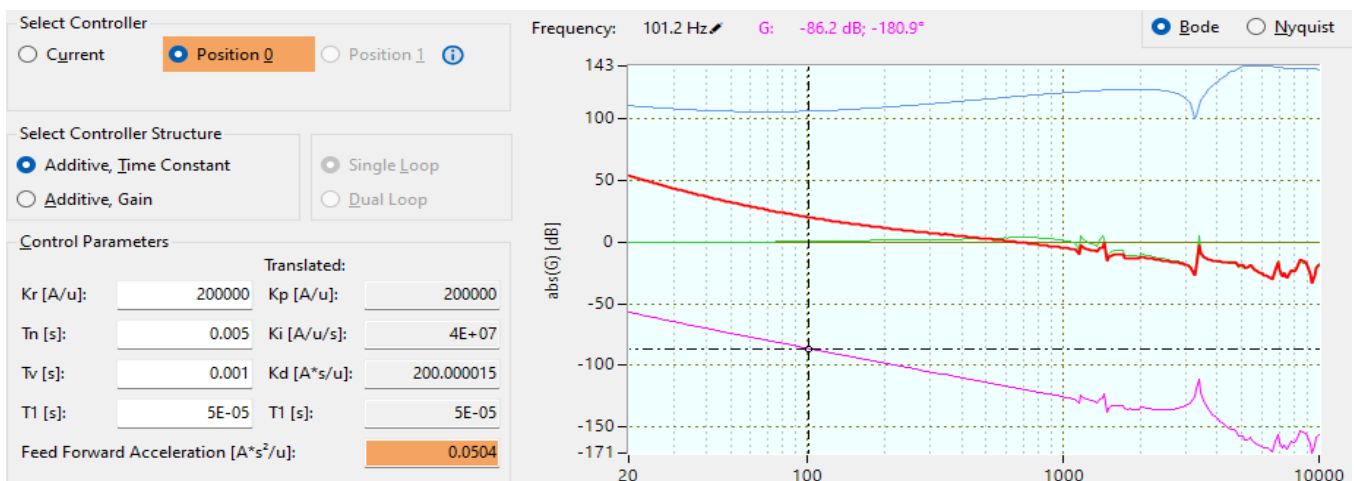

Figure 65: Calculation of the acceleration feed forward. With a measured amplitude of -65.3dB at 29.8Hz, the acceleration feed forward is set to 0.052.
3. At lower frequencies the amplitude in the Bode view of *Gplant* should show a linear section with a drop of 40dB per frequency decade and a phase angle of -180 degree. Place the cursor at a frequency *f* within the linear section (see also Figure 65).